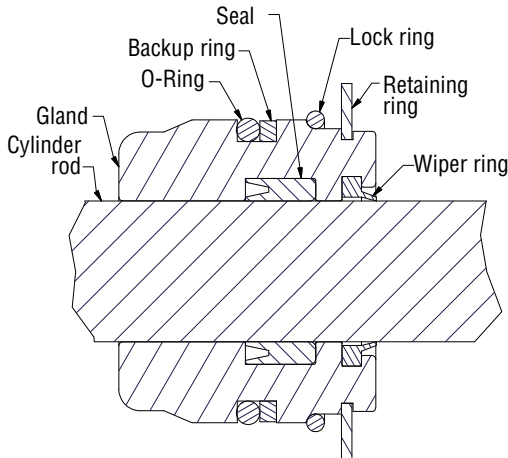

Figure 5-9, Gland Cap Seal
3. Install the seals and wipers in the gland cap. Note the direction of the seals. The cupped side or O-ring side of the seal should be facing the piston. (Figure 5-9)